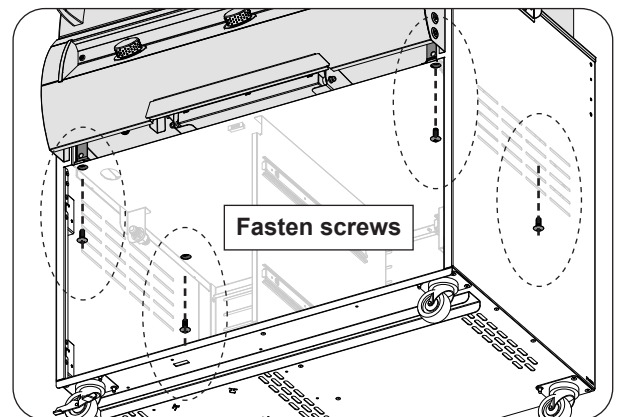

Fig. 11-4 Secure appliance to cart base
6. Open the cabinet door. Fasten the four included screws to the appliance's front and rear legs from inside the cabinet using a Phillips head screw driver. See Fig. 11-4. Tighten securely.